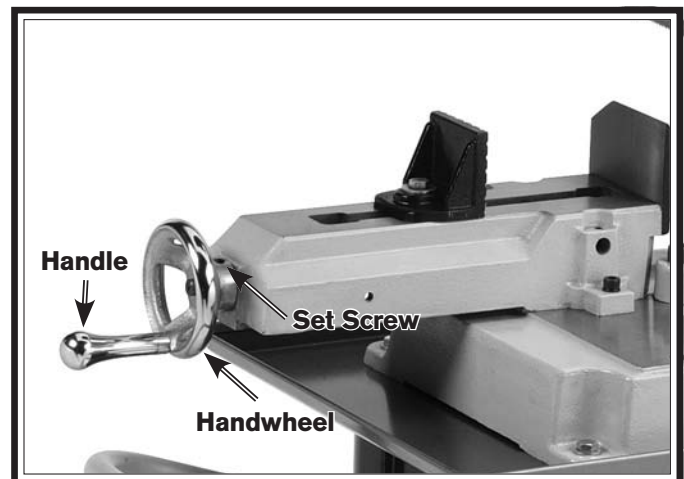

Figure 20. Vise handwheel.
15. Slide the vise handwheel onto the leadscrew and tighten the set screw shown in **Figure 20**. Thread the handle into the handwheel and tighten it.